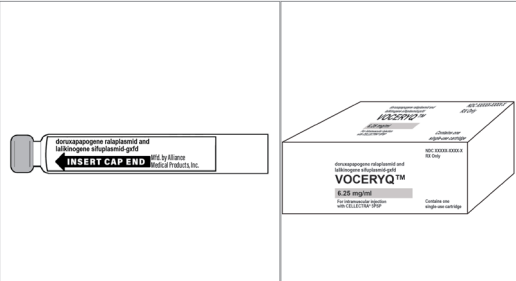

Figure 38 VOCERYQ Cartridge and Carton
4. Remove the VOCERYQ Cartridge from its carton and inspect for damage (see Figure 38).